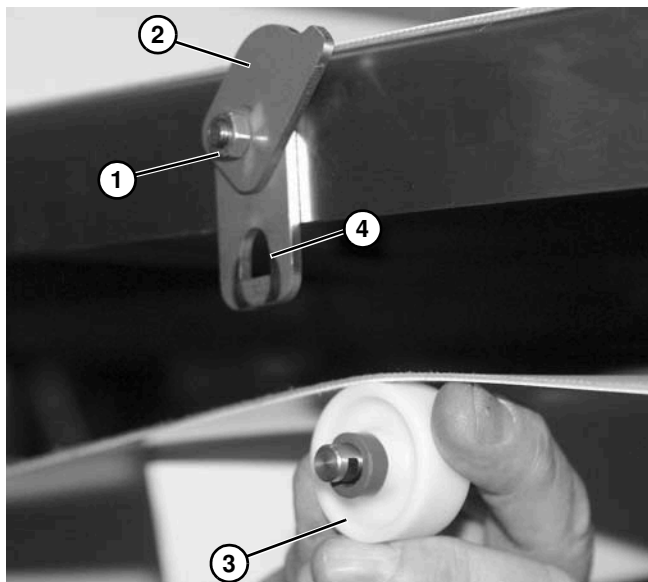

Figure 49
2. Loosen nut (**Figure 49, item 1**), raise clip bracket (**Figure 49, item 2**), and remove belt returns (**Figure 49, item 3**) from slotted holes (**Figure 49, item 4**) in shaft bracket. Repeat on both sides of conveyor frame, as needed.